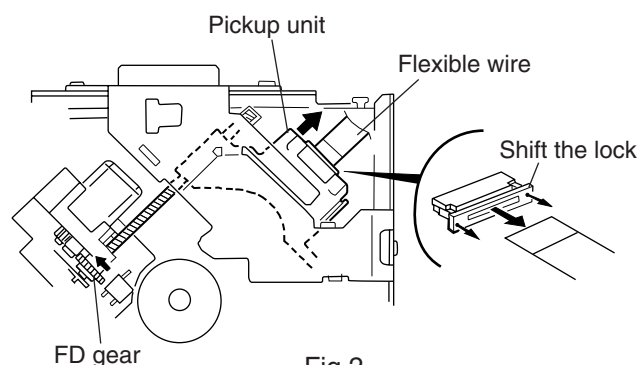

Fig.2
■ Removing the heat sink (See Fig.2)
(Refer to Fig.2)